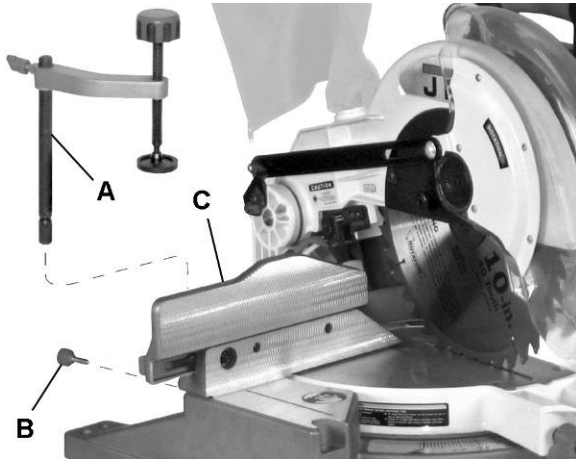

Figure 4
1. Place the *hold-down clamp assembly* (A, Fig. 4) in a mounting hole located behind the right or left (shown) *fence* (C).
2. Thread the *hold-down clamp knob* (B) into the hole located at the rear of the saw base.
3. Tighten the *hold-down clamp knob* (B).